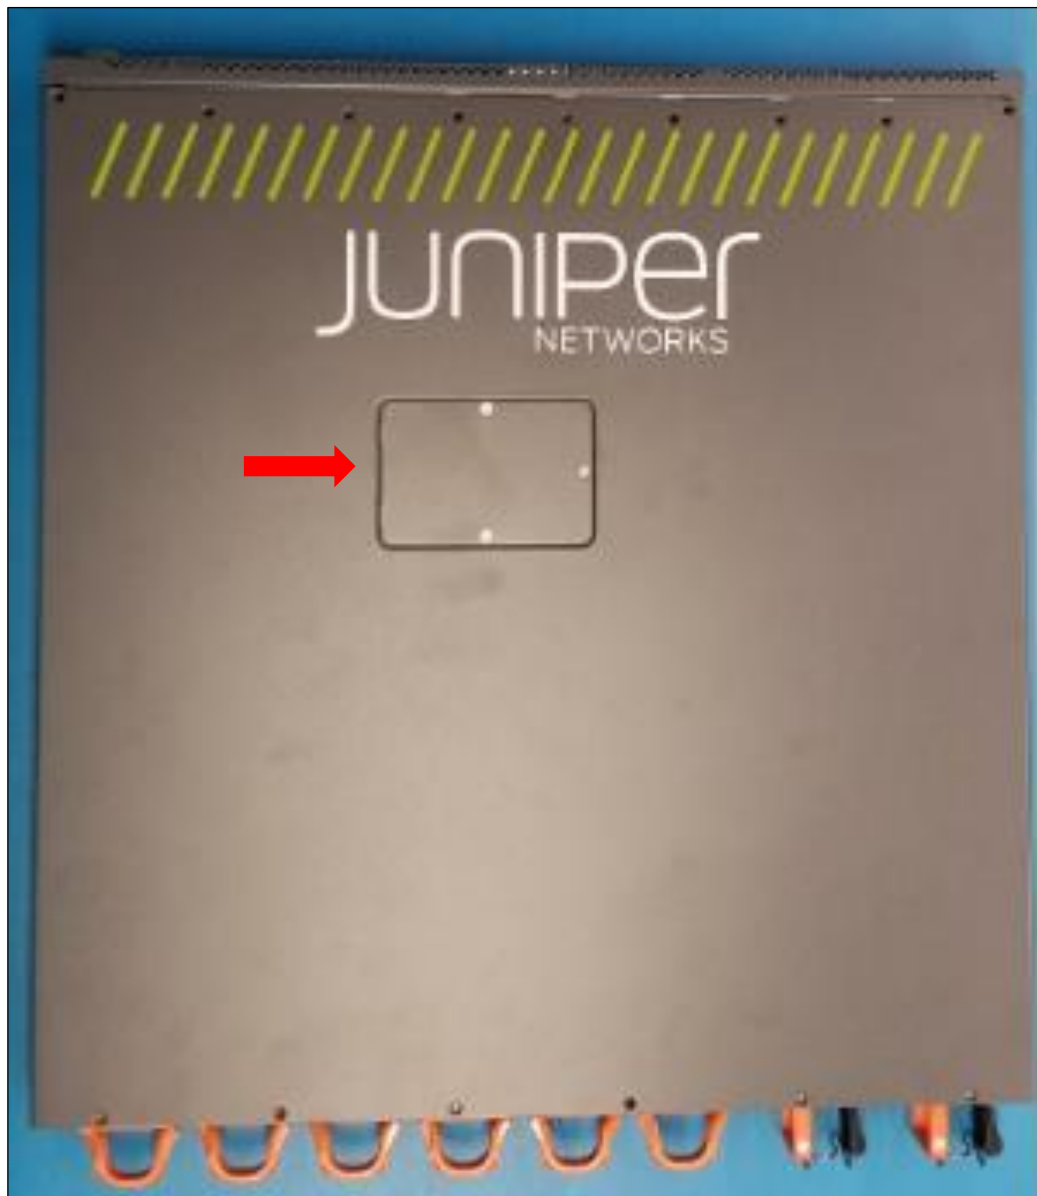

Figure 3-3: NVME SSD Windows
5. Remove the screws from the top of the chassis to access the NVME SSD device. Use a Philips screwdriver to remove the SSD's (Figure 3-3).